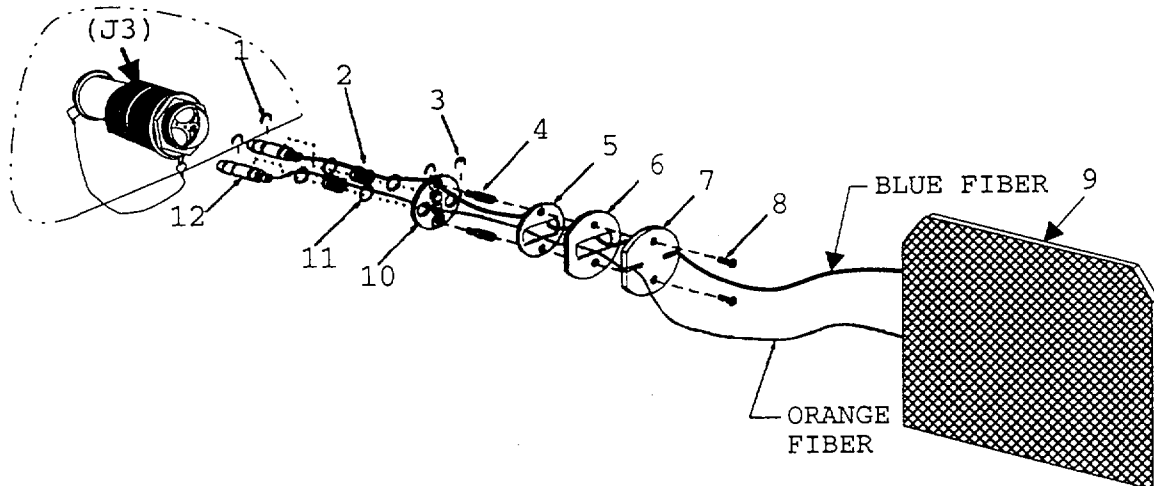
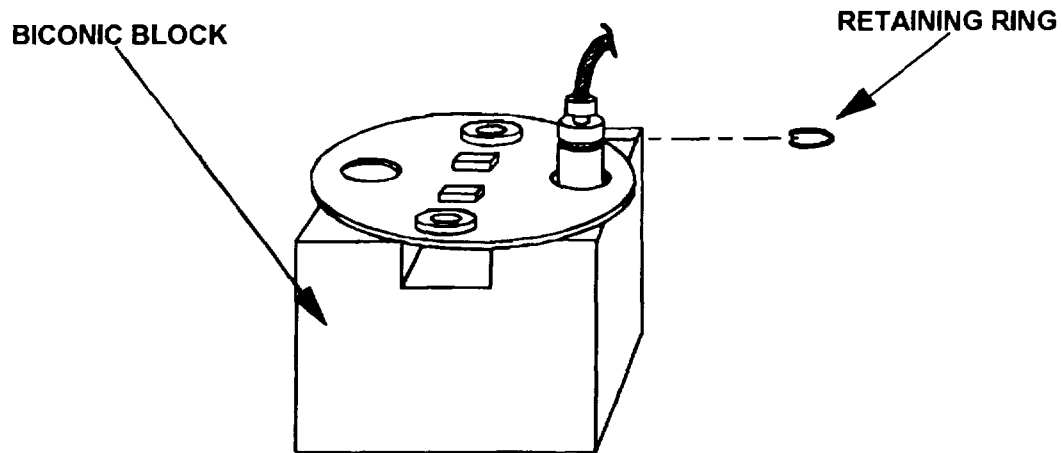
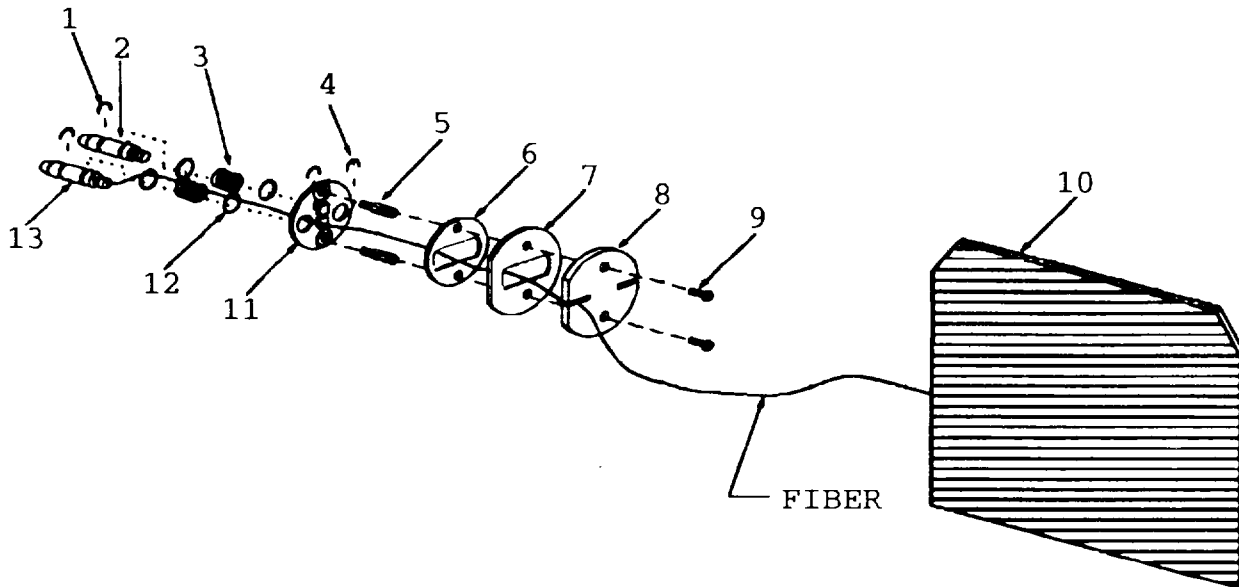

FIGURE 5-10. MCF FOBC Exploded View.
FIGURE 5-12. Biconic Block.
FIGURE 5-13. FTF FOBC Exploded View.
- (1) Using No. 1 cross-tip screwdriver, remove two screws (8, Fig. 5-10) securing end plate (7) to FOBC (J3).
- (2) Remove fibers from slots in end plate (7). Set end plate aside.
- (3) Grasp shielding gasket (6) and gently pull away from extension studs (4).
- (4) Use pliers to gently pull receptacle washer (5) away from extension studs (4).
- (17) Place thumbs on MCF CCA card ejectors and flip back toward sides of card cage to release MCF CCA.
- (18) Remove MCF CCA (9, Fig. 5-10) from card cage assembly.
- (1) Place front panel assembly with front panel down.
- (2) Ensure that electronic circuit card retainer screws are loosened on FTF CCA and MCF CCA before attempting to insert CCAs in card cage assembly.
- (3) Make loop in fibers approximately 2 inches in diameter place loop so that both velcro pieces are covered. Hold loop in place and secure to velcro.
- (4) Insert new MCF CCA in card cage assembly.
- (5) Insert FTF CCA in card cage assembly.
- (6) Secure CCAs by placing thumbs on card ejectors and pushing towards cards.
- (7) Using 3/32-inch hex key, tighten electronic circuit card retainer screws to 12 inch pounds.
- (8) Turn front panel assembly over with panel side up.
- (9) Push biconic connectors (12, Fig. 5-10) through shielding gasket (6) and receptacle washer (5).
- (10) Place biconic connector (12) secured to orange fiber through hole 1 stamped on retainer plate (10).
- (11) Install washer (11), compression spring (2), and washer (11) on biconic connector (12).
- (12) Using retaining ring installation tool, install retaining ring (1) on front end of biconic connector (12).
- (13) Seat biconic connector (12) in hole 1 stamped on retainer plate (10). Place biconic connector and retainer plate in biconic block so that compression springs are inside hole of biconic block (refer to Fig. 5-12).
- (14) Press retainer plate down to expose back of connector where retaining ring will seat. Using retaining ring installation tool, install retaining ring on connector.
- (15) Place biconic connector (12, Fig. 5-10) secured to blue fiber through hole 2 stamped on retainer plate (10).
- (16) Repeat steps 9 thru 12, using blue fiber and hole 2 instead of orange fiber and hole 1, to secure remaining biconic connector (12).
- (17) Clean biconic connector tip with lint-free cloth moistened with isopropyl alcohol.
- (18) Install biconic connectors by aligning keys on retainer plate to holes on MCF FOBC.
- (19) Using nutdriver, install two extension studs (4) into retainer plate (10).
- (20) Align receptacle washer (5) and shielding gasket (6) to retainer plate (10).
- (21) Align end plate (7) and place fibers in slots.
- (22) Place two screws (8) through end plate (7), shielding gasket (6), receptacle washer (5), and into extension studs (4).
- (23) Using No. 1 cross-tip screwdriver, install two screws (8) into extension studs (4). Tighten securely.
- (1) Using No. 1 cross-tip screwdriver, remove two screws (9, Fig. 5-13) securing end plate (8) to FOBC (J3). Set screws aside.